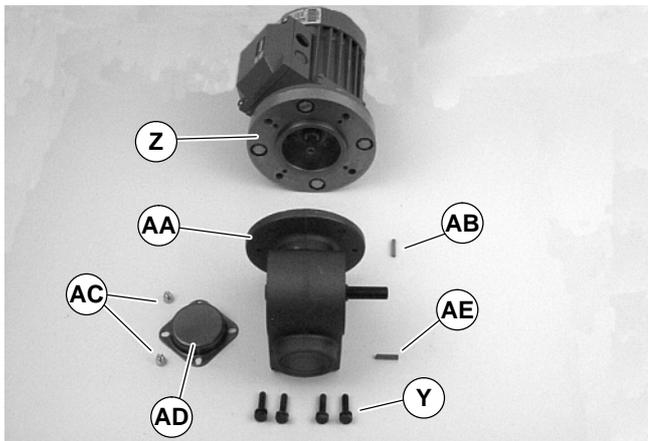

Figure 16
5. Remove four screws (Y of Figure 16). Detach motor with adapter flange (Z) from gear reducer (AA). Retain motor output shaft key (AB).
10. With key (AB of Figure 16) in keyway, slide motor with adapter flange (Z) and gear reducer (AA) together. Install screws (Y) and tighten.